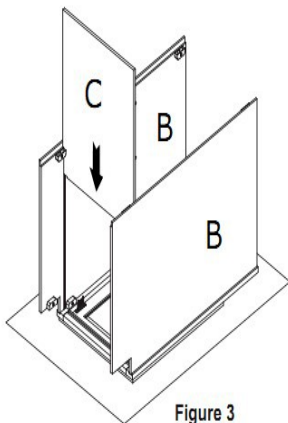

Figure 3
3. Installing the Bottom (Figure 3): Gently spread the side panels and insert the bottom (C) into the grooves of side panel (B) until it touches the face frame (A). Align it and lock each cam.